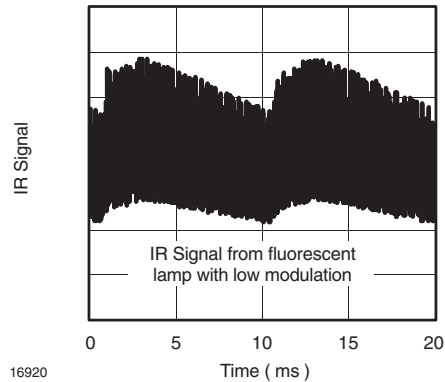

Figure 13. IR Signal from Fluorescent Lamp with low Modulation
- Signals from fluorescent lamps with electronic ballast with high or low modulation ( see Figure 13 or Figure 14 ).